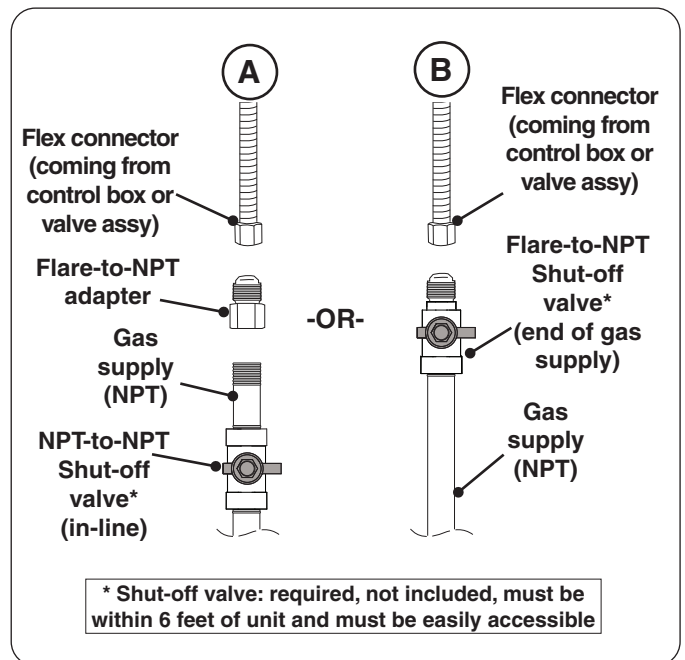

Fig. 21-1 Connecting to a gas line
- Install the supplied flare-to-NPT adapter to the gas supply (NPT) using a pipe joint compound resistant to all gasses (see Fig. 21-1, A). Tighten securely.
- Connect the flex connector to the adapter (see Fig. 21-1, A). Tighten securely.
- Connect the flex connector to the shut-off valve (flare)(see Fig. 21-1, B). Tighten securely.